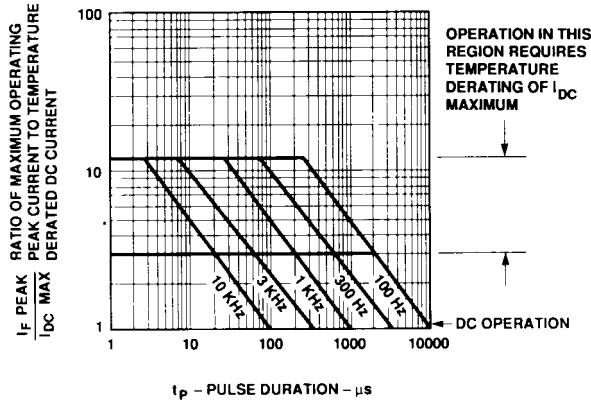

Figure 9. Allowable Peak Current vs. Pulse Duration - Green Series.
- See Figure 9 to establish pulsed conditions.